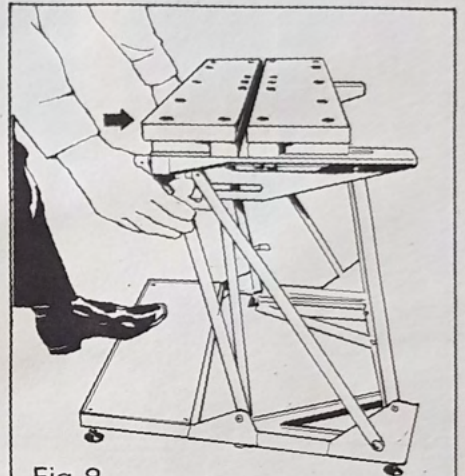
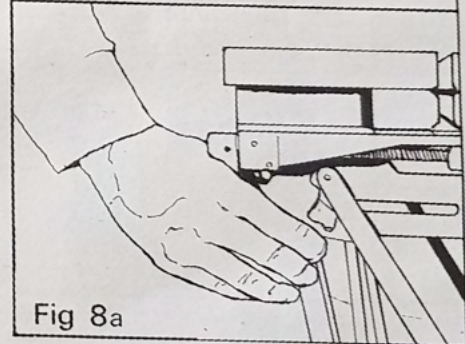

Fig 8
Fig 8a
- 1 Stand in front of the unit with the vice handles towards you and place your foot on the footboard (Fig. 8).
- 2 Pull back on the triggers of the safety catches on either side of the Workmate (Fig. 8a), and push the unit away from you until it will go no further, maintaining pressure on the triggers (Fig. 8).